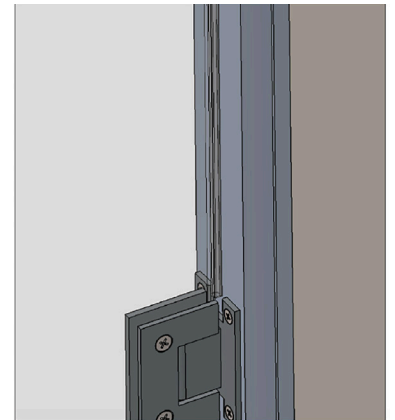

FIGURE 29B
ZV SDTB Bulb Seal (N) - This is to be placed on hinge edges of glass. You will need to cut into 3 pieces that will fit the small areas from top hinge to top of door, bottom hinge to bottom of door and the large area between hinges. Remove red covering to expose adhesive and apply to edge of glass. (See Figure 29B)